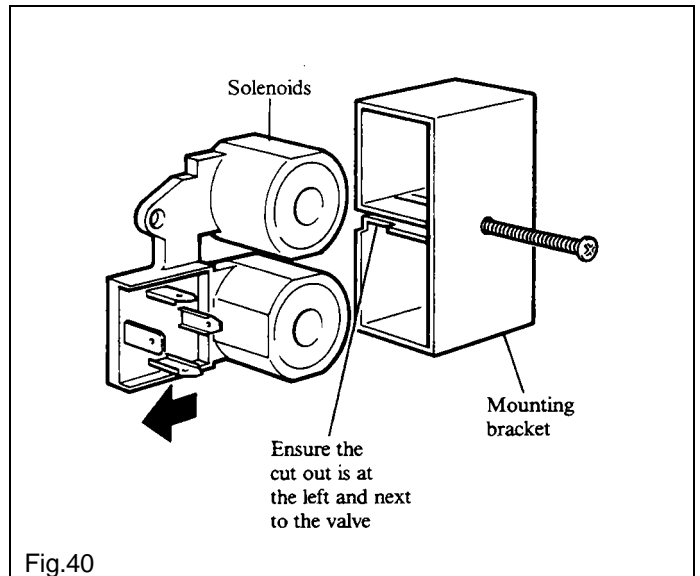

Fig.40
Refer to Fig. 40.
4. Position the new solenoids in the mounting bracket, see Fig. 40 and replace the mounting bracket.